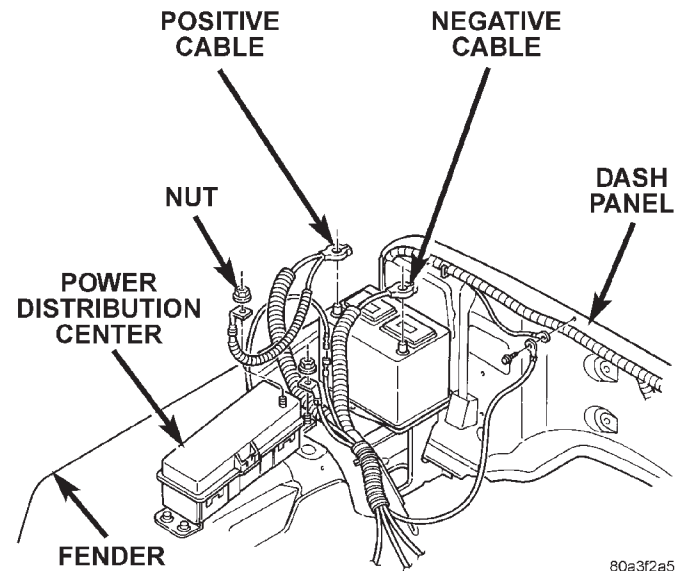

Fig. 29 Power Distribution Center
- (1) Disconnect and isolate the battery negative cable.
- (2) Remove the cover from the Power Distribution Center (PDC) (Fig. 29).